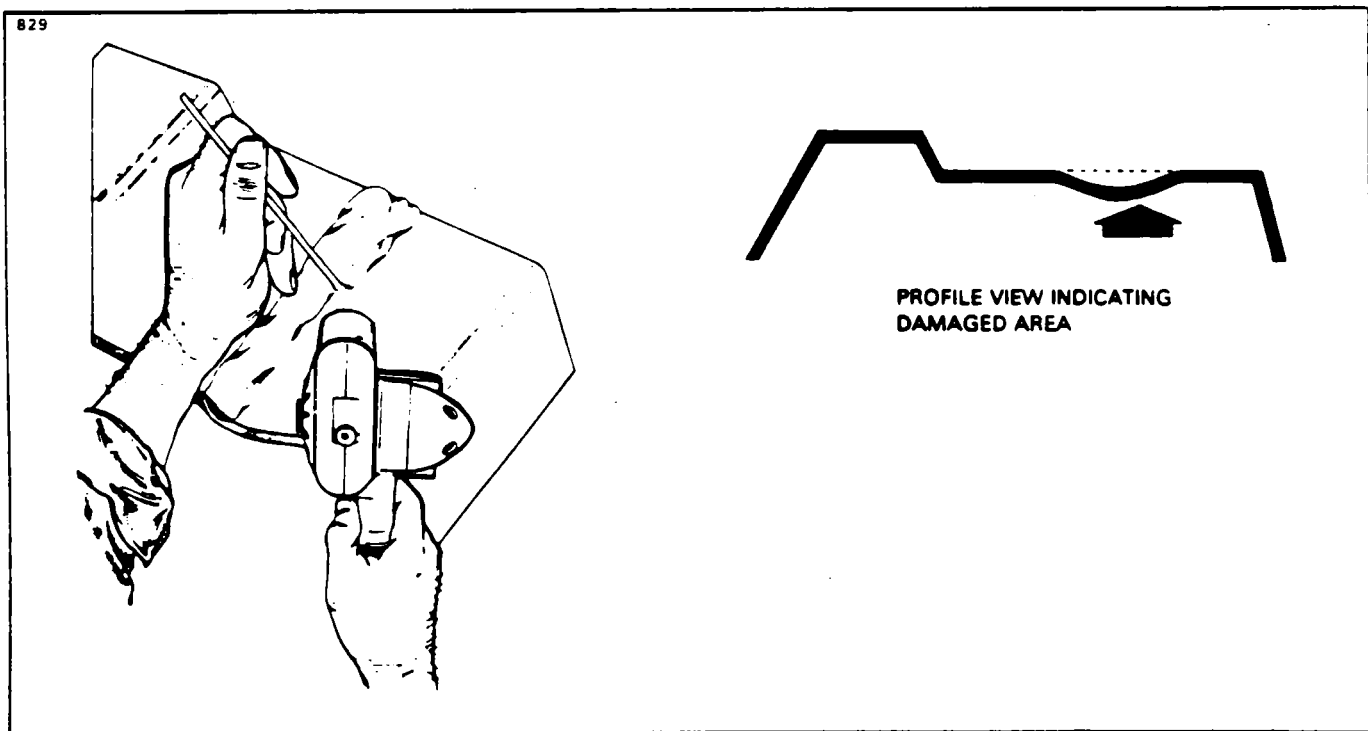

Figure 51-9. Repair of Impacted Damage
A. Stress lines produce a whitened appearance in a localized area and generally emanate from the severe bending or impacting of the material. (Refer to Figure 51-9.)